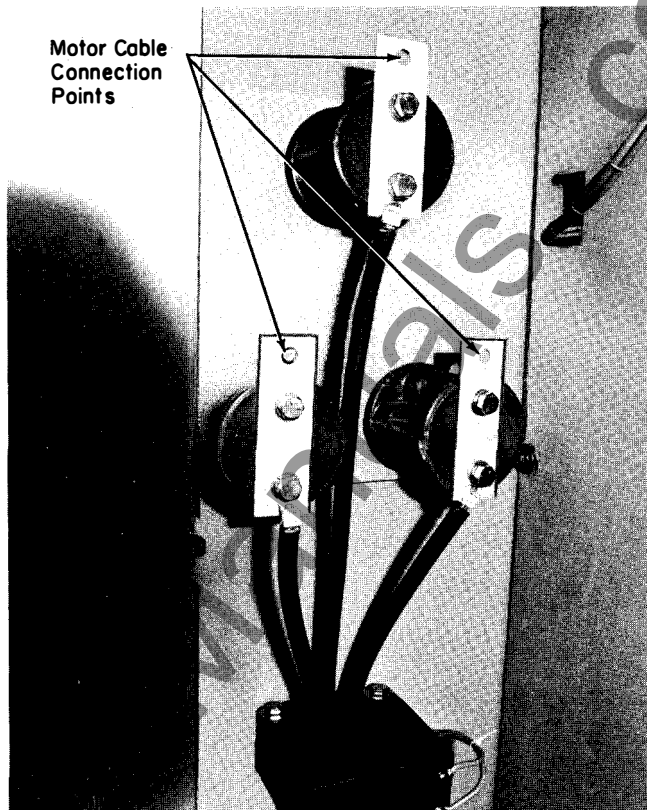

Fig. 61. Motor termination points for lower starter.
6. Motor termination points are now accessible. (Fig. 61.) Connection may be made from either the top or bottom of the enclosure.